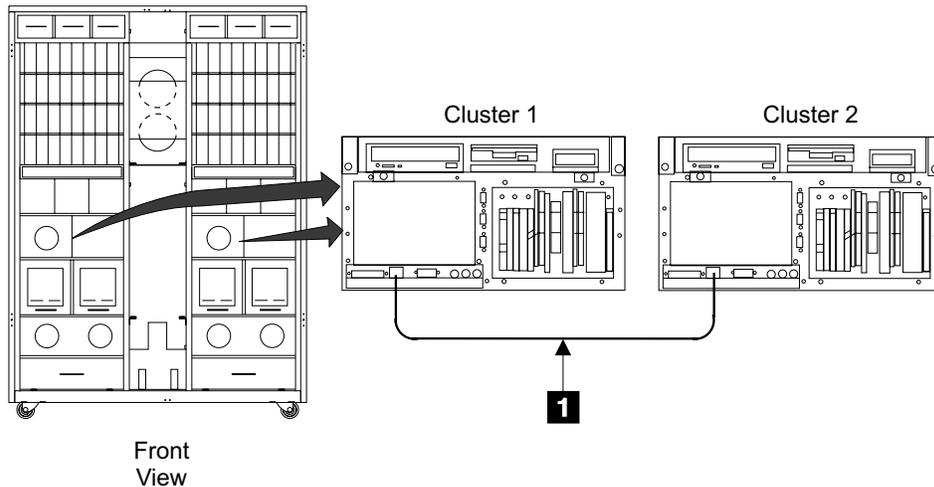

Figure 212. Cluster Bay Communications Cable Location (S007621m)
- ___ 5. Verify that the cluster bay communication Ethernet (RJ45) cable, P/N 09L0294, is installed between the Ethernet 10BaseT connectors on cluster bay 1 and cluster bay 2 **1** [Figure 212].